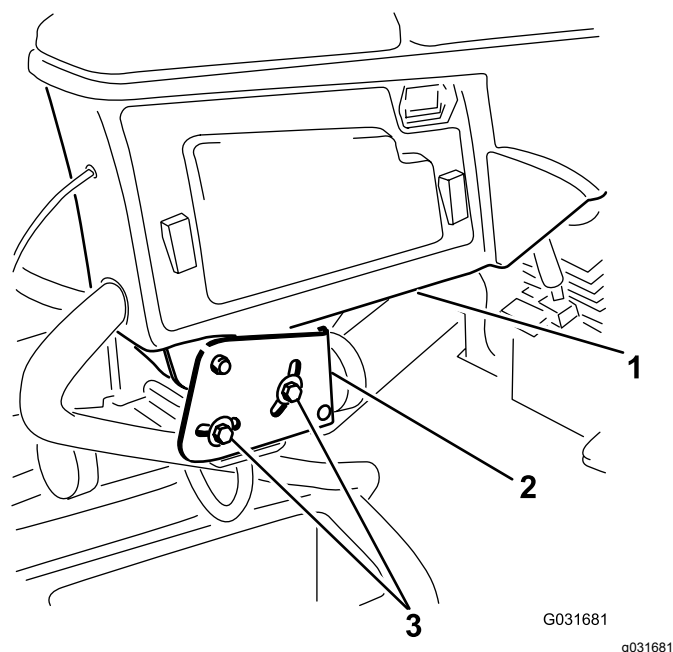

Figure 4
- Loosen the 2 bolts securing the control arm to the retaining bracket (Figure 4).